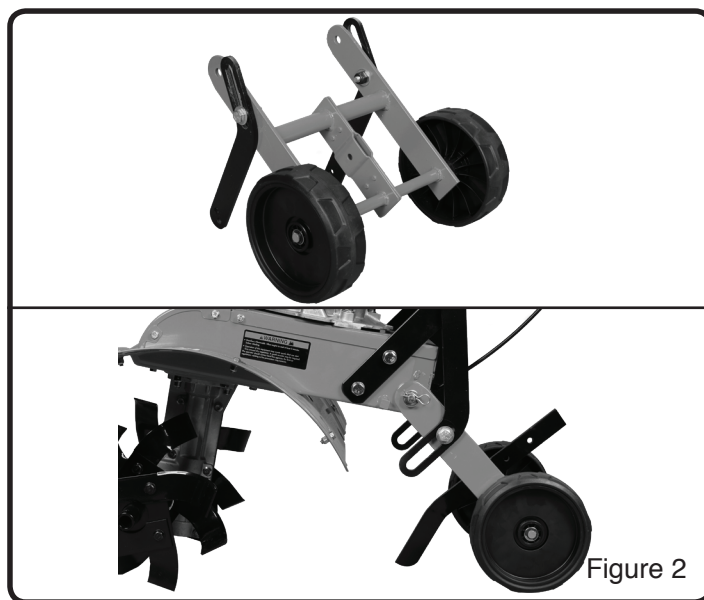

Figure 2
1. Install the wheel assembly to the frame by removing a hairpin cotter and flat washer from one end of pivot rod. Remove rod from frame. Align pivot holes in wheel assembly to pivot holes in frame. Install pivot rod and secure by reinstalling flat washer and hairpin. (See Figure 2)